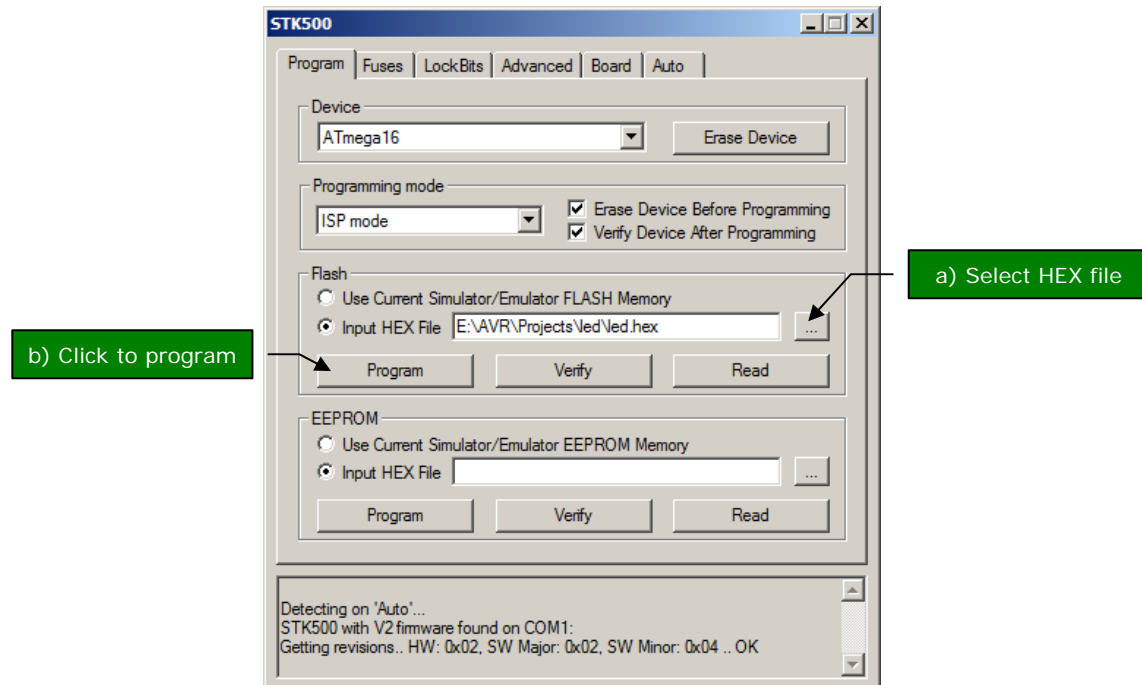

Figure 12: Selecting AVR programmer.
- In the 'STK500' dialog box that appears, select led.hex as 'Input Hext File'. Then, click button **Program** to download the HEX file to the AVR chip (Figure 12).